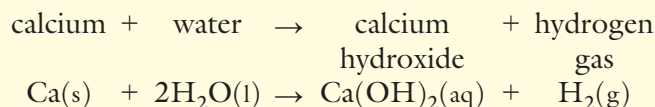

Figure 9.11 Tarnished (left) and cleaned-up magnesium.
- They are silvery-grey in colour when pure and clean. They tarnish quickly, however, when left in air due to the formation of a metal oxide on their surfaces (Figure 9.11).